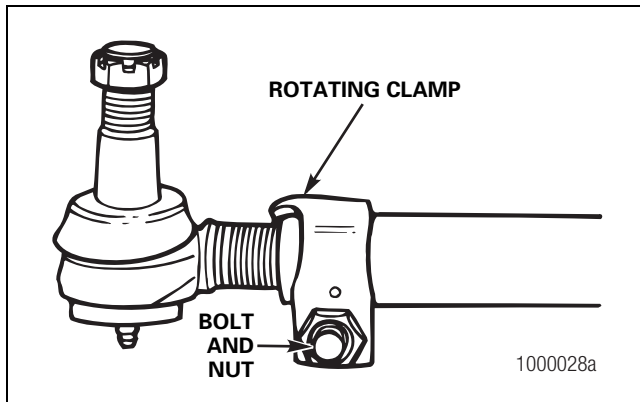

Figure 3.3
- B. Remove the bolts and the nuts from the clamp on the cross tube. The rotating style clamp on the cross tubes can be rotated for easier accessibility when removing the clamp bolt and nut. Figure 3.3.